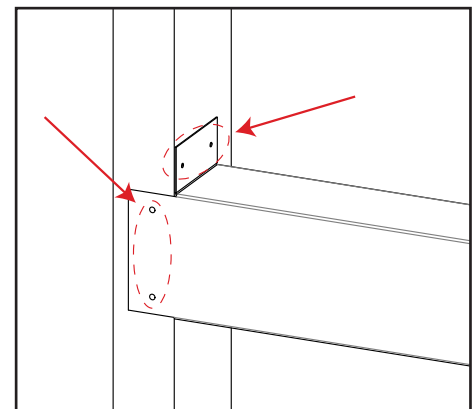

Figure 17: Steel Stud Framing Attachment
4. Attach the steel stud to the framing studs using the holes shown in Figure 17.